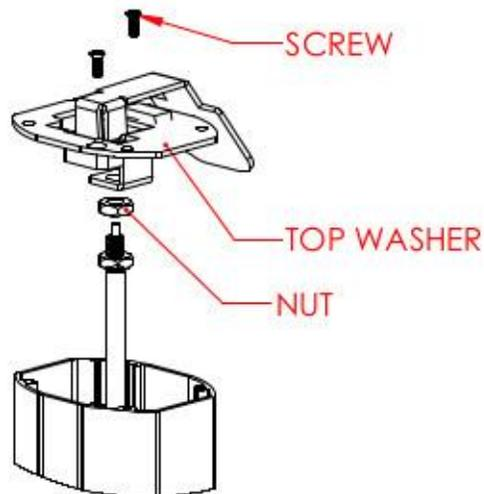
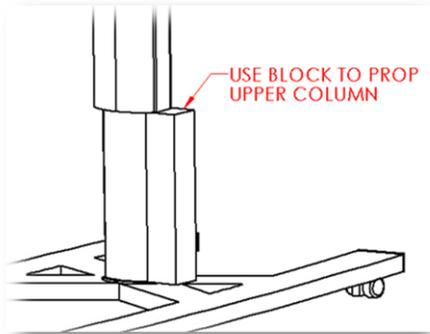

Figure 5
Figure 8
4.3 Remove the top washer by removing the 2 screws that are attached to the upper column, NOTE: keep hold of the upper column while removing the screws to prevent the column from dropping. Next loosen the 2 nuts holding the gas spring to the top washer. Remove the top nut & the top washer & set aside (Figure 5).
- 4.9 Attach the top washer removed in step 4.3 to top of gas spring. Thread on the top nut. Adjust the nut setting so that the top of the lever is parallel to the top washer (Figure 5).
- 4.10 Attach the upper column to the top washer. Use the provided block to boost the upper column (Figure 8). Activate the gas spring lever and push the top plate down, aligning the plate and column holes. Attach with the 2 screws removed in step 4.3 (Figure 5).